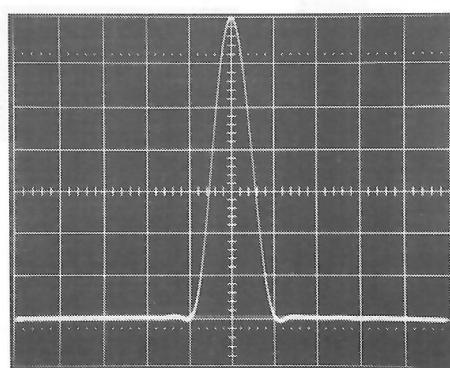

Fig. 17-4 Correct 2T pulse
- Select the line 17 (A)/NTC-7 COMP signal and check that the amplitude of the 2T pulse is equal to the amplitude of the white reference bar. Check the shape as well; refer to fig. 17-4.